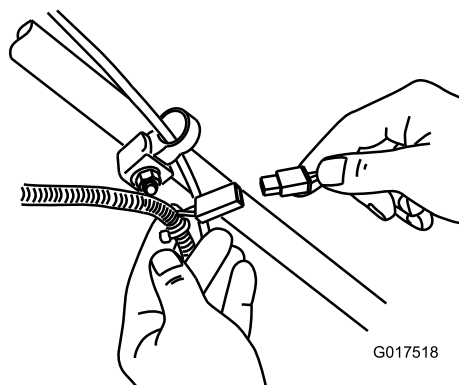

Figure 33
1. Connect the charger to the wire harness located below the ignition key (Figure 33).